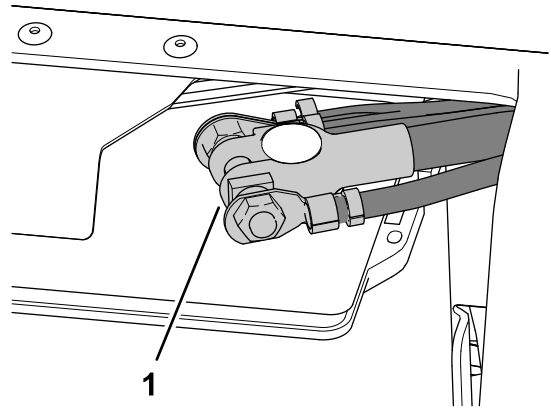

Figure 43
1. Assemble the terminal of the negative battery cable to the negative post of the battery, and tighten the nut of the terminal by hand (Figure 43).